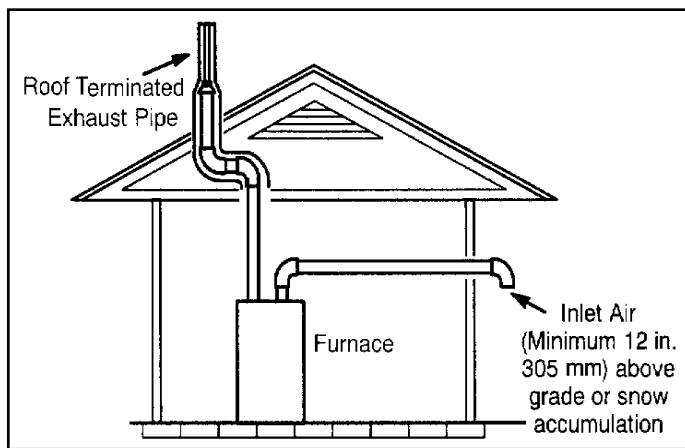
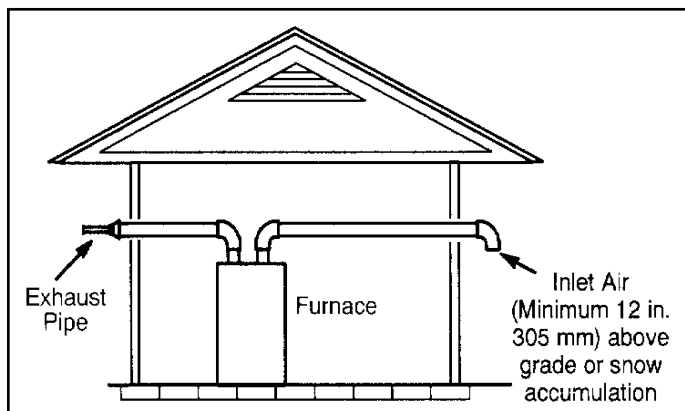

Figure 37. Exiting Exhaust and Intake Vent (no common pressure zone)
Figure 38. Exiting Exhaust and Intake Vent (no common pressure zone)
1. Intake and exhaust terminations are not required to be in the same pressure zone. You may exit the intake on one side of the structure and the exhaust on another side (Figure 38). You may exit the exhaust out the roof and the intake out the side of the structure (Figure 37).